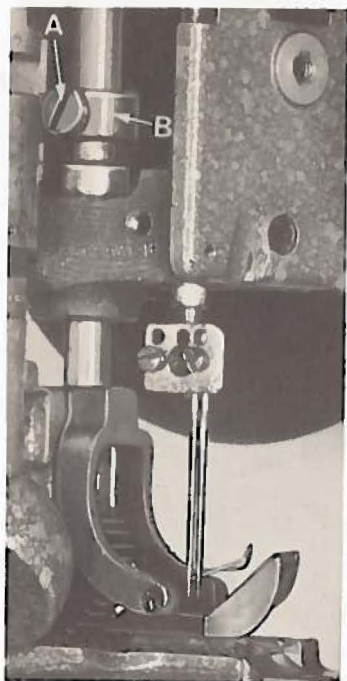

Fig. 10
The presser foot should be adjusted to clear the throat plate  $1/8$  inch before the upper feed roller mechanism begins to rise. Loosen set screw (A, Fig. 10) in presser bar lifter and guide (B), raise or lower guide as required to attain the specified point at which the feed roller begins to rise. Retighten set screw (A).